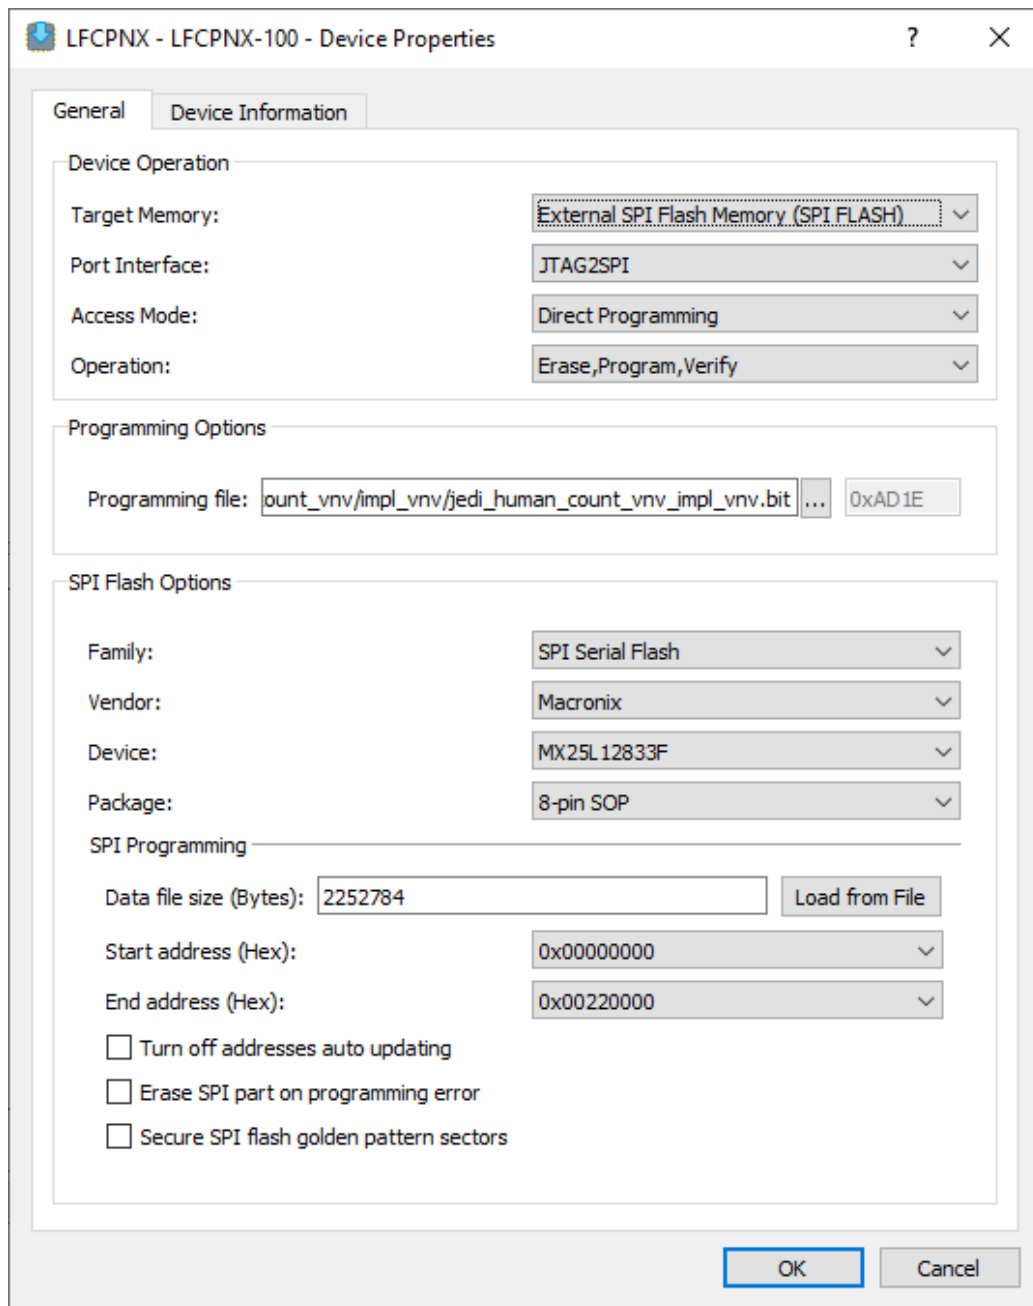

Figure 4.6. Radiant Programmer – Selecting Device Properties Options for CertusPro-NX Flashing
- c. For **SPI Flash Options**, select the **Macronix 25L12833F** device, as shown in Figure 4.6.